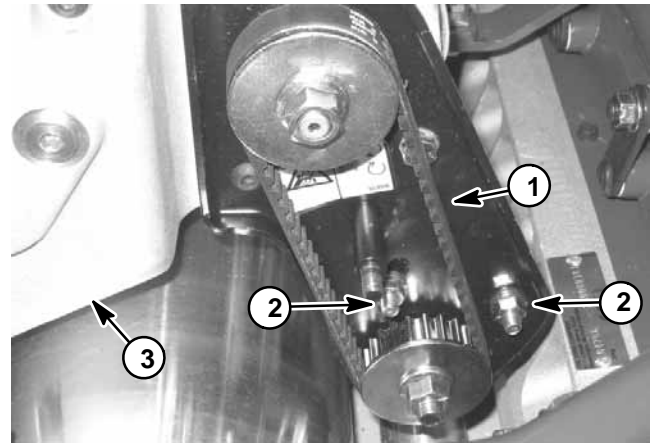
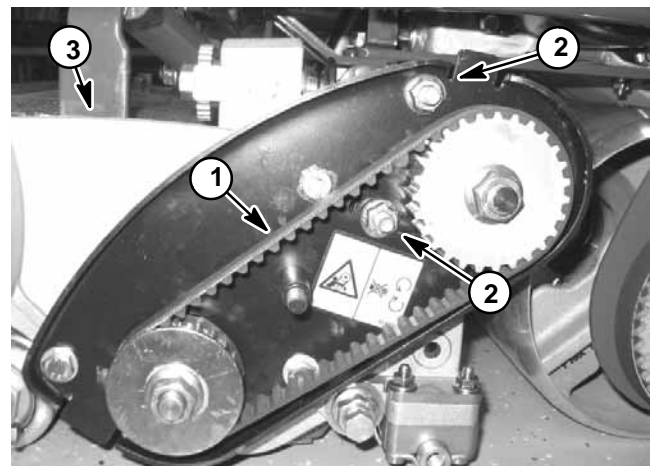

Figure 1
Figure 2
Reel Drive and Transmission Coupler Drive Belt Replacement (Fig. 1 and 2)
2. Remove belt cover to expose appropriate drive belt: right side (Fig. 1) or left side (Fig. 2).
3. Loosen the two (2) bearing housing mounting nuts.